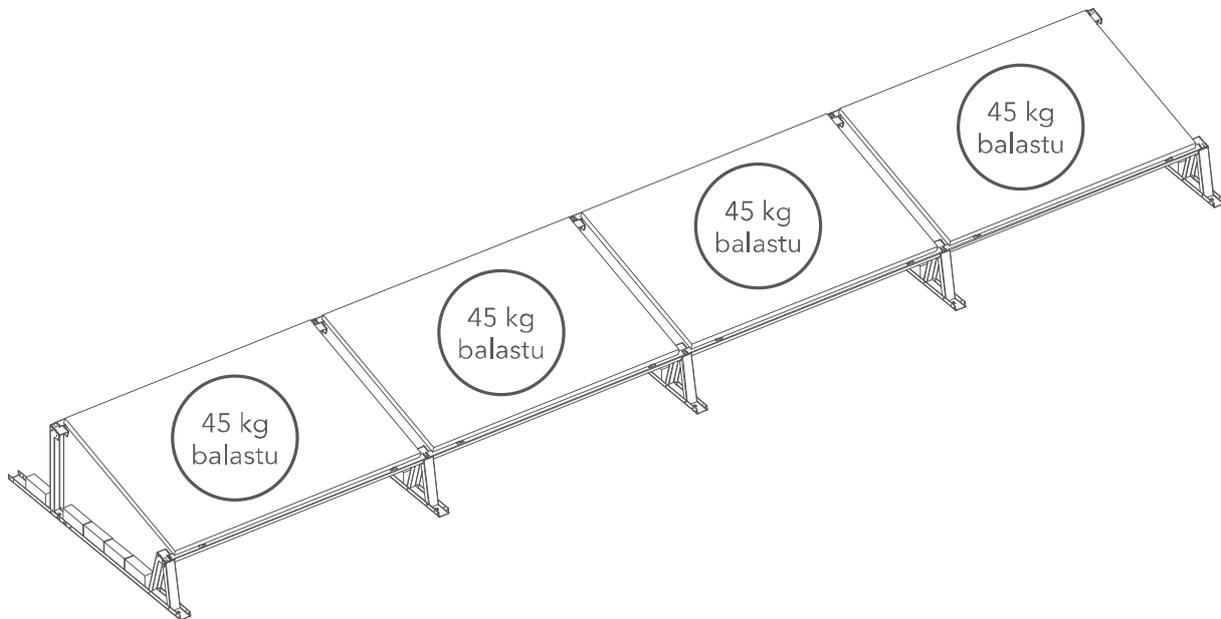

Fig. 8. distribution of the ballast on a row of photovoltaic panels.
- 7** If there is only one row of photovoltaic panels, the weight of the ballast per panel is 45 kg (Fig. 8).